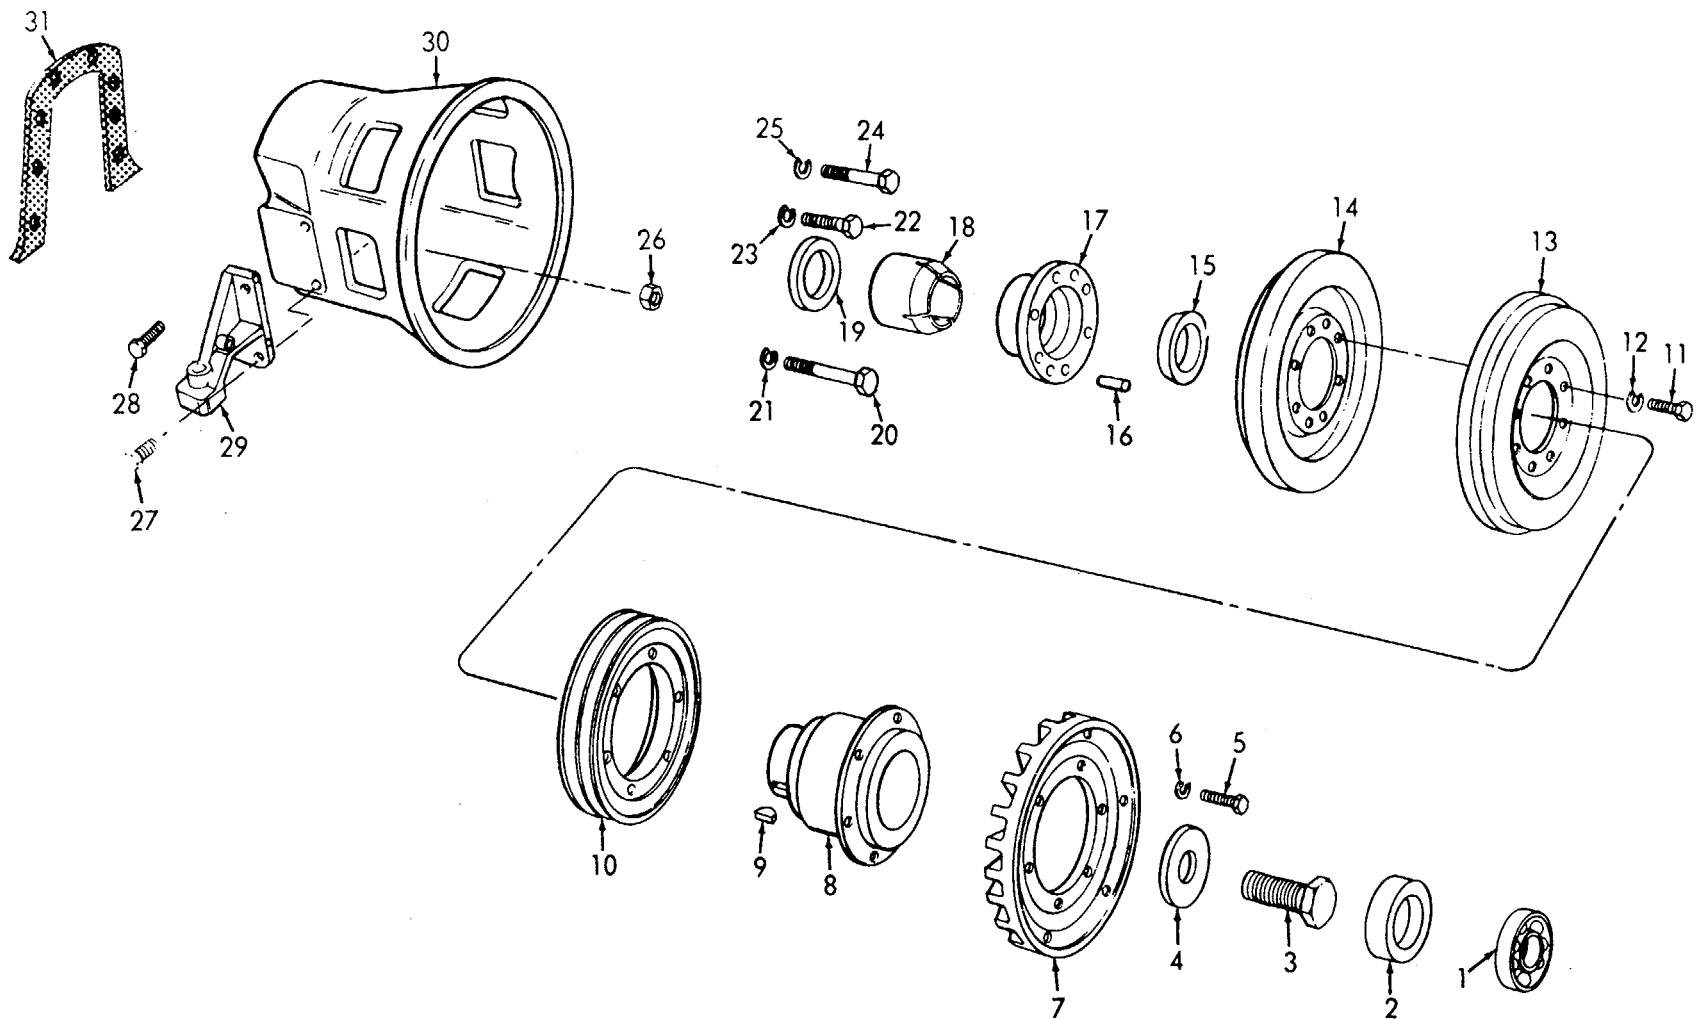

Figure 3-97. Crankshaft, disassembly and reassembly.
- (1) Remove bolts (2, fig. 3-97) and lock- washers (3) and remove the crankshaft gear (4) from the crankshaft.
Key to figure 3-97.
- (1) Clean the crankshaft and gears with cleaning solvent (FED. SPEC. PD-680) and dry thoroughly.
- (2) Remove plugs, (1, figure 3-97) from crankshaft and clean out all oil passages thoroughly.